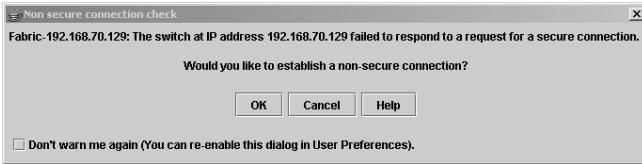

Figure 21. McDATA SANbrowser nonsecure connection check window
14. If the switch module is not configured for a secure connection, click **OK**, as shown in Figure 21.